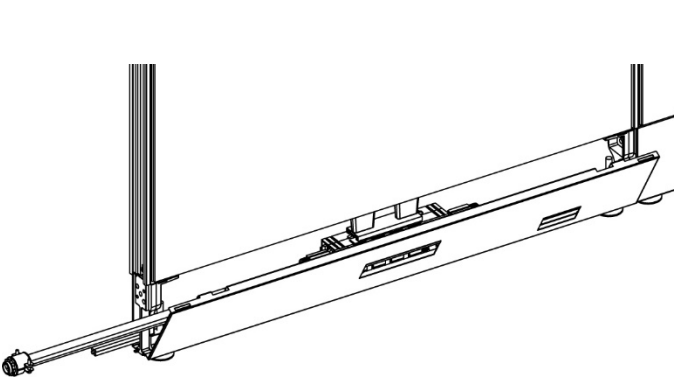

Figure 6
- 7. Place the raceway cover, (Figure 6). See **“Raceway Cover Installation”**.